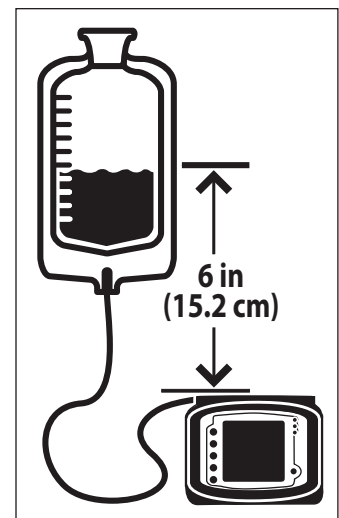

Figure 4B. Correct Fluid Level.
- Grasp finger tab on valve and insert into front pocket (1).
- Grasp black ring retainer and wrap tubing around rotor (2). Pull up on retainer and insert into back pocket (3).
4. **Suspend the pump set bag so that the top of the starting volume of formula is 6 inches above the pump (Figure 4B).**
7. **The top of the starting volume of formula should be 6 inches above the pump (Figure 4B).**